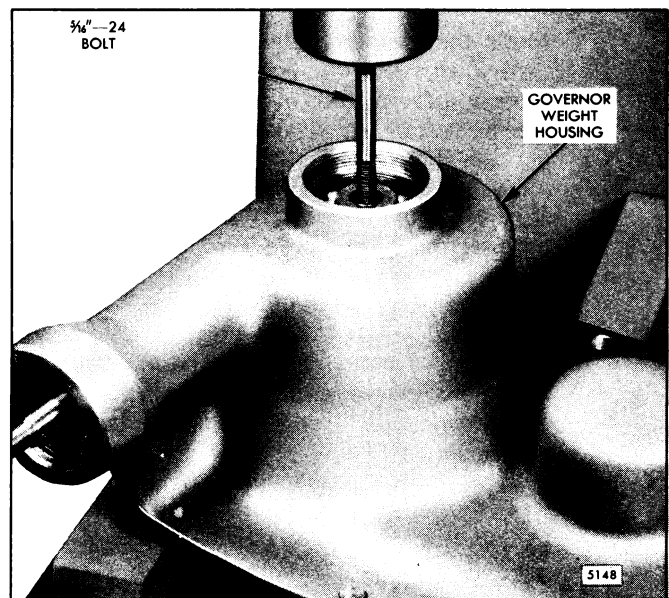

Fig. 9 - Removing Governor Weight and Shaft Assembly
- a. Remove the governor weight housing plug (51) and gasket (50) with socket J 23176.
- b. Straighten the tang of the lock washer (53) and remove the bearing retainer bolt(52), washer and lock washer.
- c. Thread a 5/16"-24 bolt into the tapped hole in the end of the weight shaft and remove the governor weight and shaft assembly, using an arbor press (Fig. 9).